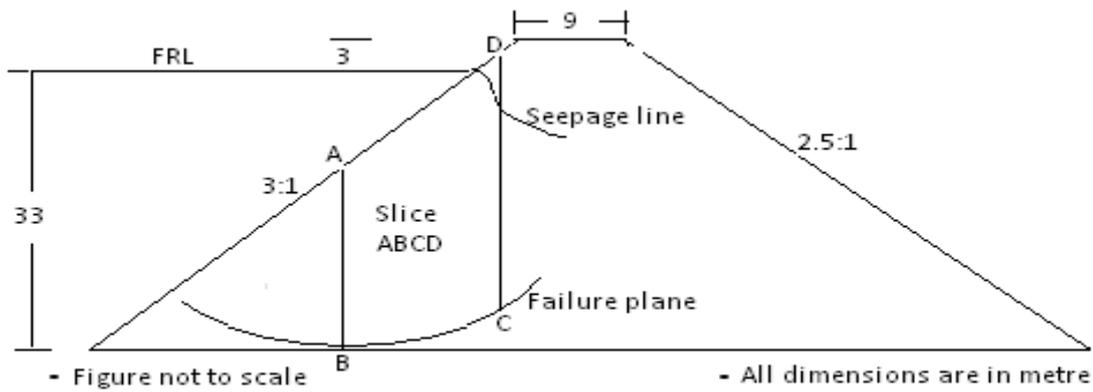

Fig. 2 (Q. 2 (b))
- (b)** Stability analysis of a homogeneous earth dam (shown in Fig. 2) was carried out using the slip circle method. Following data is available for the dam: **07**